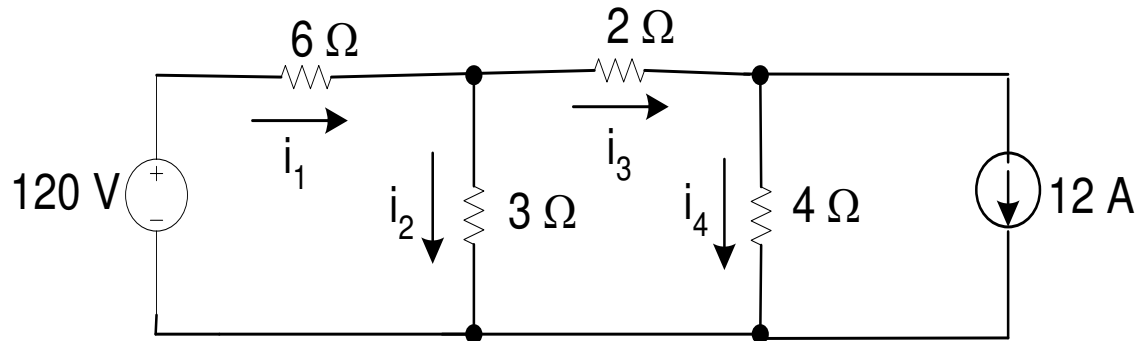
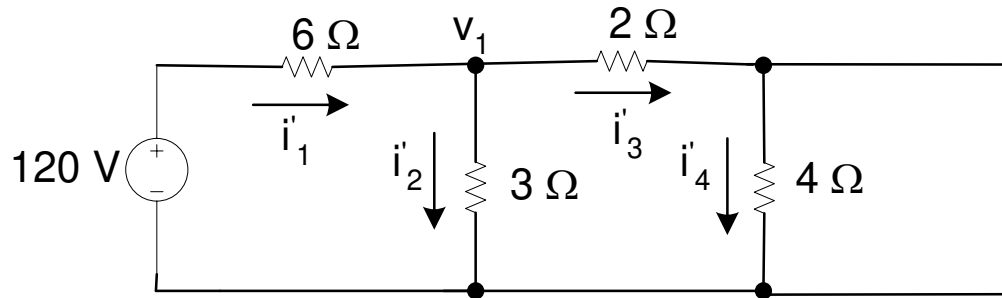

Figure 1
Figure 2
Refer to the Figure 1, determine the branches current using superposition theorem.
- The application of the superposition theorem is shown in Figure 1, where it is used to calculate the branch current. We begin by calculating the branch current caused by the voltage source of 120 V. By substituting the ideal current with open circuit, we deactivate the current source, as shown in Figure 2.